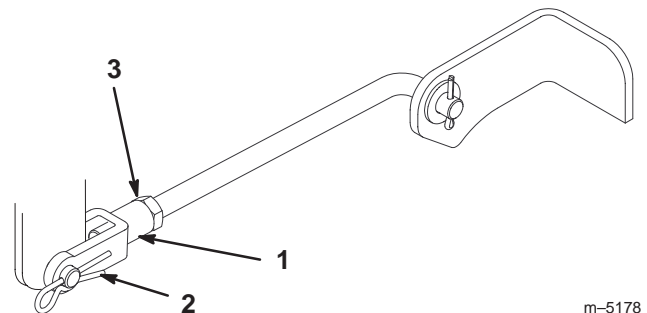

Figure 42
9. To adjust the front-to-rear blade slope, remove the hairpin cotter from the front trunion yokes and loosen the jam nuts (Fig. 42).
10. Rotate the yokes on the rods to change the adjustment (Fig. 42). To raise the front of the mower, tighten the yokes (shorten the rods). To lower the front of the mower, loosen the yokes (lengthen the rods).